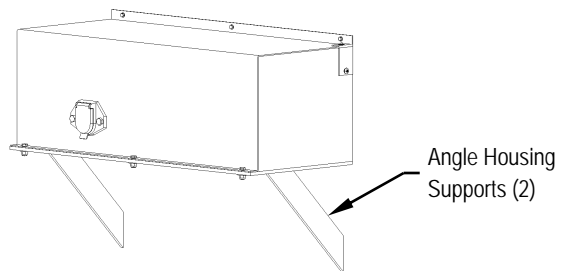

Figure 25
2. Optional support. *See Figure 25.* Weld two Angle Housing Supports (2) a minimum of 1" in from each end of mounting plate.
5. Fill reservoir with Hydraulic Oil (5).
6. Zip tie (6) hoses and pendant cable together.